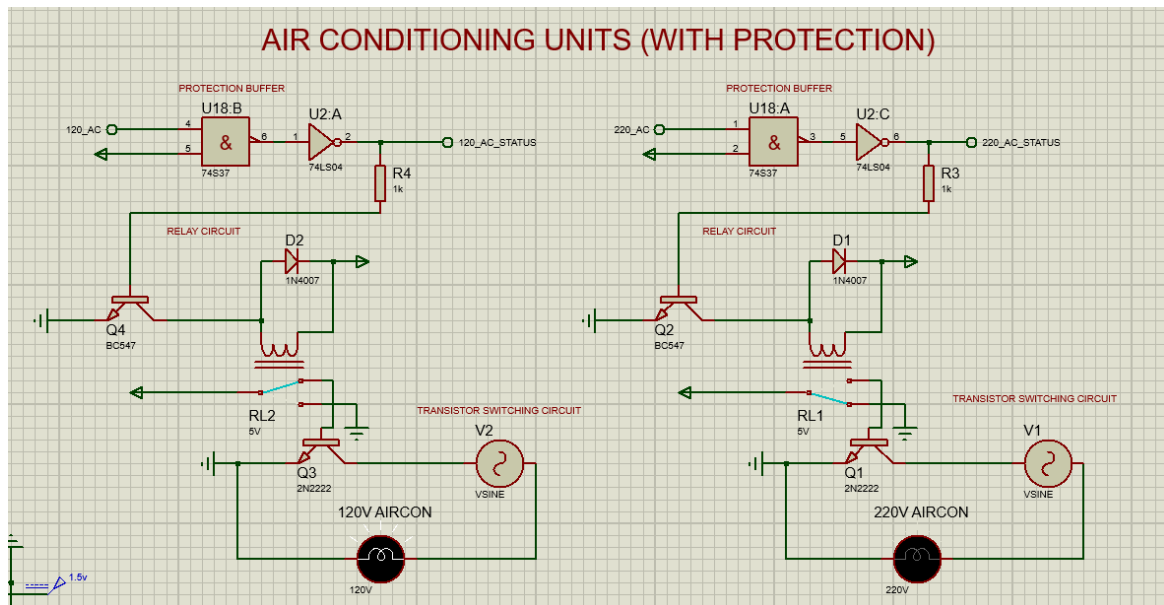

Figure 4.0 - Simulation of Air Conditioning Units
Figure 4.0 features the circuit for the simulation of our AC units. They serve as the testing components for the project's logic.
- As seen in **Figure 4.0**, the lamps (simulating the aircons) are driven with a BJT transistor. In an actual scenario, an inverter with relay circuitry is necessary to drive the circuit safely. However, due to proteus limitations, this inverter relay circuit was not achievable.